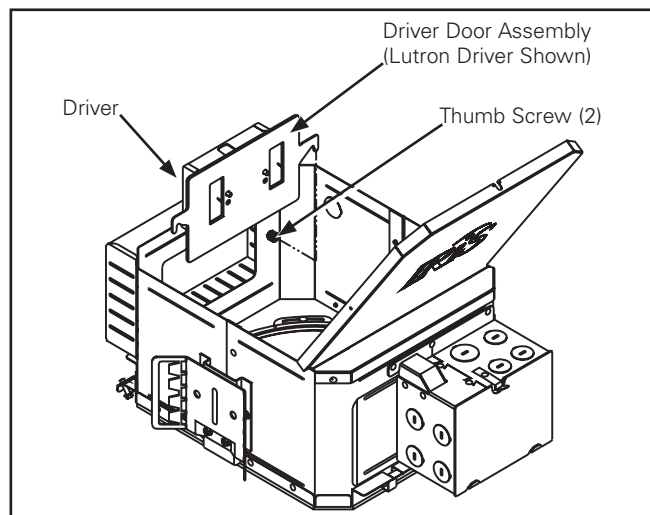

Figure 25.
2. Loosen the two thumbscrews securing the Driver Door Assembly to the housing wall (Figure 25.). The thumbscrews are captive, but do not over-torque.